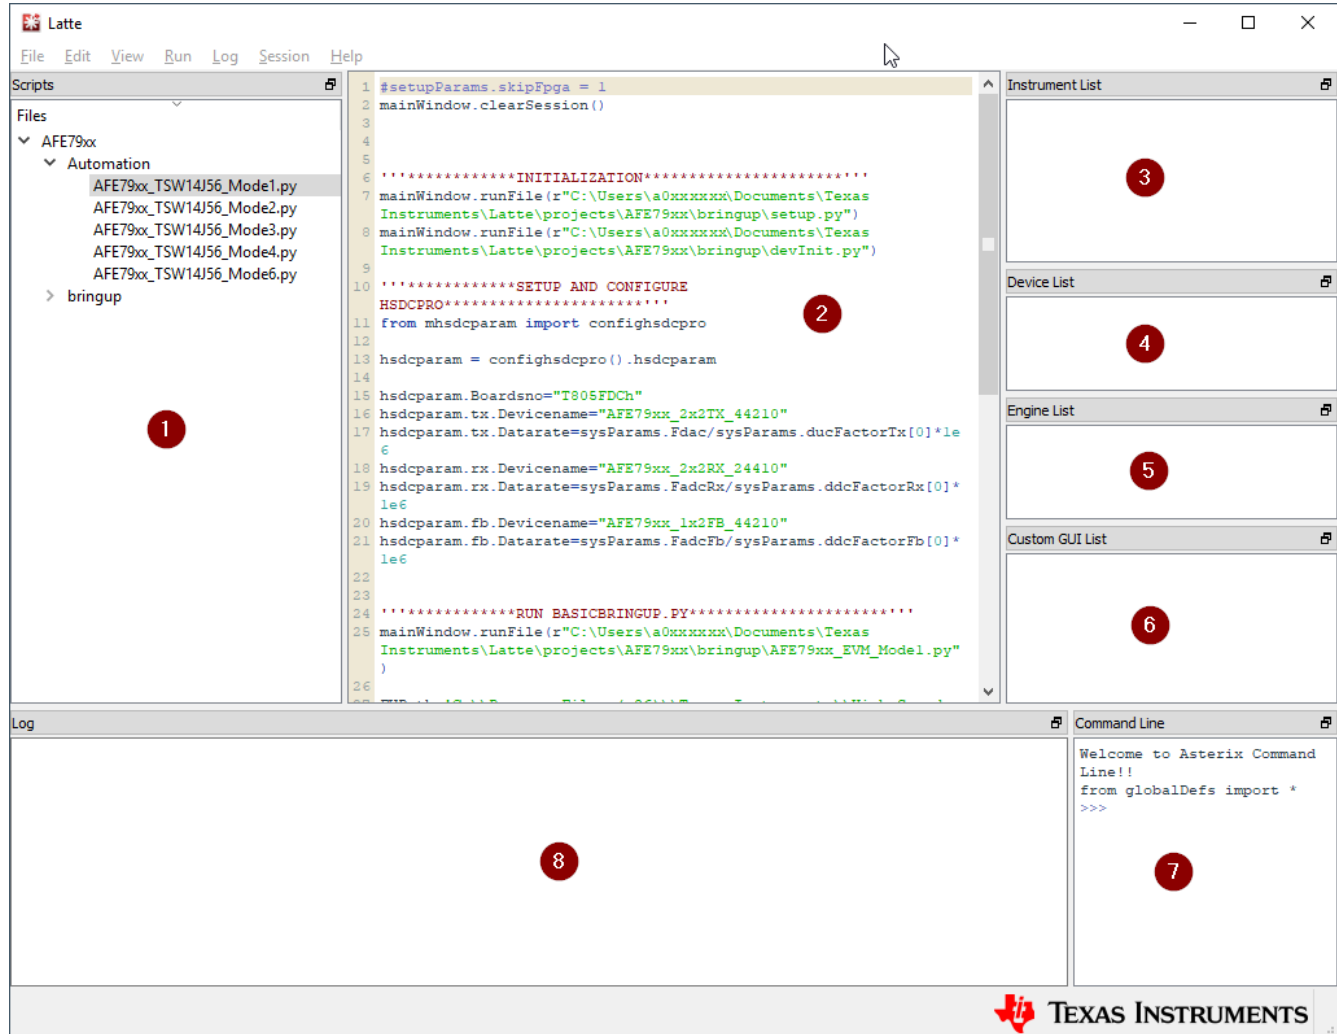

Figure 3-1. Latte GUI Overview
1. Launch the Latte GUI from the desktop shortcut or from All Programs > Texas Instruments. Figure 3-1 shows how the Latte GUI appears.
Figure 3-1 shows how the Latte UI is split into 8 windows (labeled 1 to 8) with the functionality that follows: